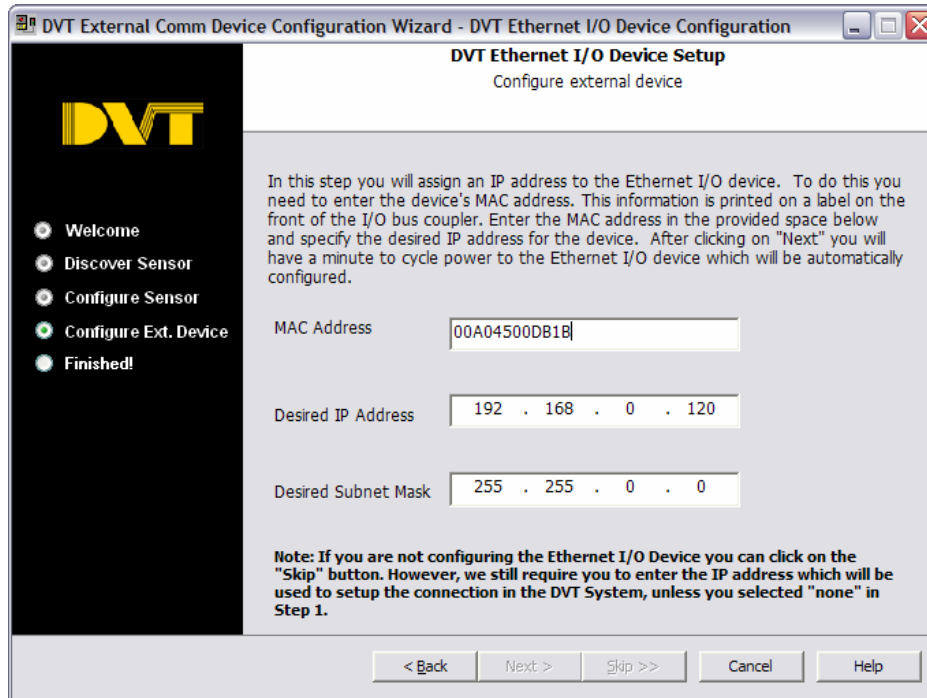

Fig. 8
- The next screen is the External Device Configuration screen. See Fig. 8. This screen is where the Ethernet I/O Module is assigned the IP address.